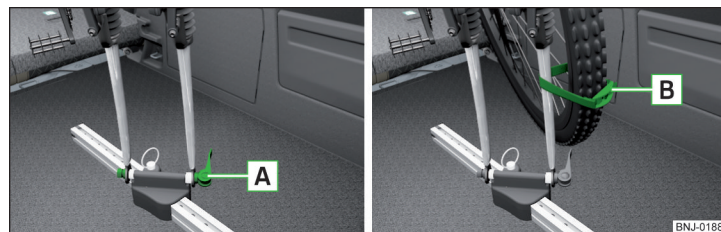

Fig. 121 Insert the front fork of the bicycle into the carrier / mounting example of the front wheel
- › Release the quick release **A** » Fig. 121 on the carrier and adjust according to the bicycle fork width.
- › Attach the front wheel with belt **B** to the front fork » Fig. 121 or to the bicycle frame.